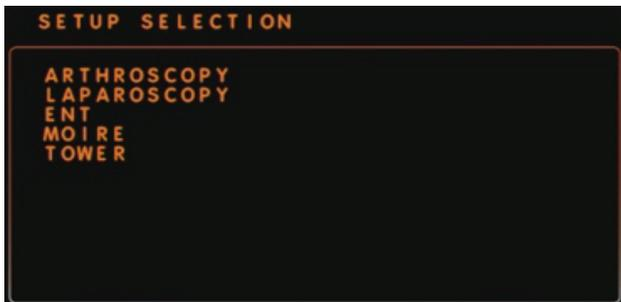
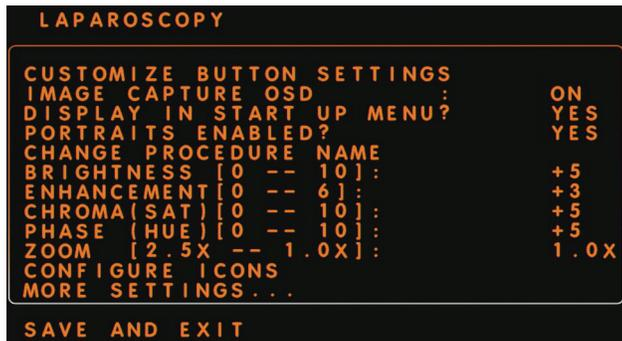

Figure 36. CUSTOMIZE CAMERA Setups SETTINGS screen
Figure 39. Image Capture OSD
3. Navigate to the camera setup (Figure 36) to be customized and press **Select** to open that camera's setup customization screen. The CUSTOMIZE BUTTON SETTINGS option will blink (Figure 39).
1. Navigate to **IMAGE CAPTURE OSD** (Figure 39). When **IMAGE CAPTURE OSD** blinks, press **Select** to select it. The current setting will blink.